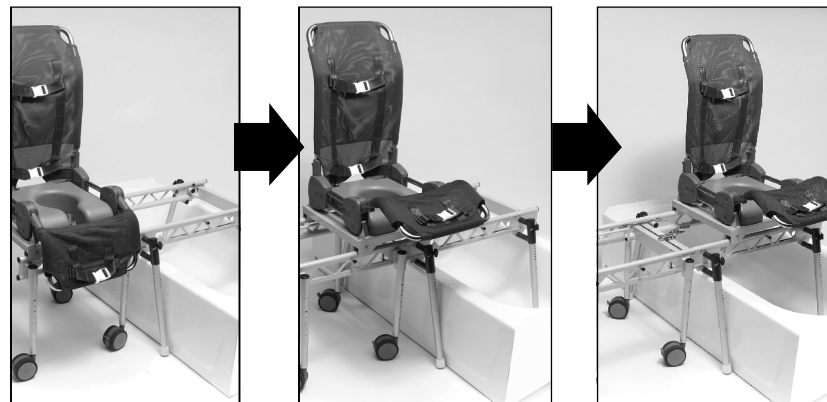

Figure 18
6. Prior to transfer, raise the calf support high enough to clear the sides of the tub (Fig. 18).